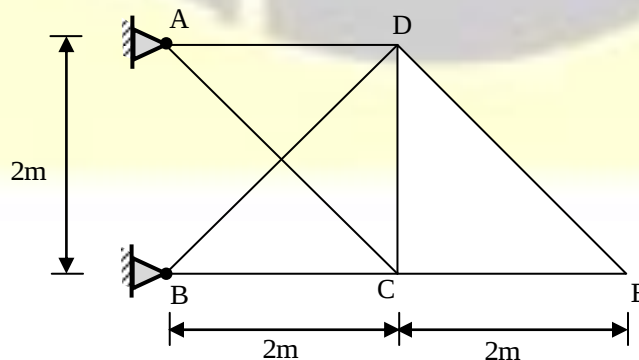

Figure 6
- (b) Determine the forces in all the members of the truss as shown in Figure 6 due to a fall of temperature of the member BD by 30°C . Cross-sectional area of all the members = 1500 mm^2 . $\alpha = 0.00001 / ^\circ\text{C}$.